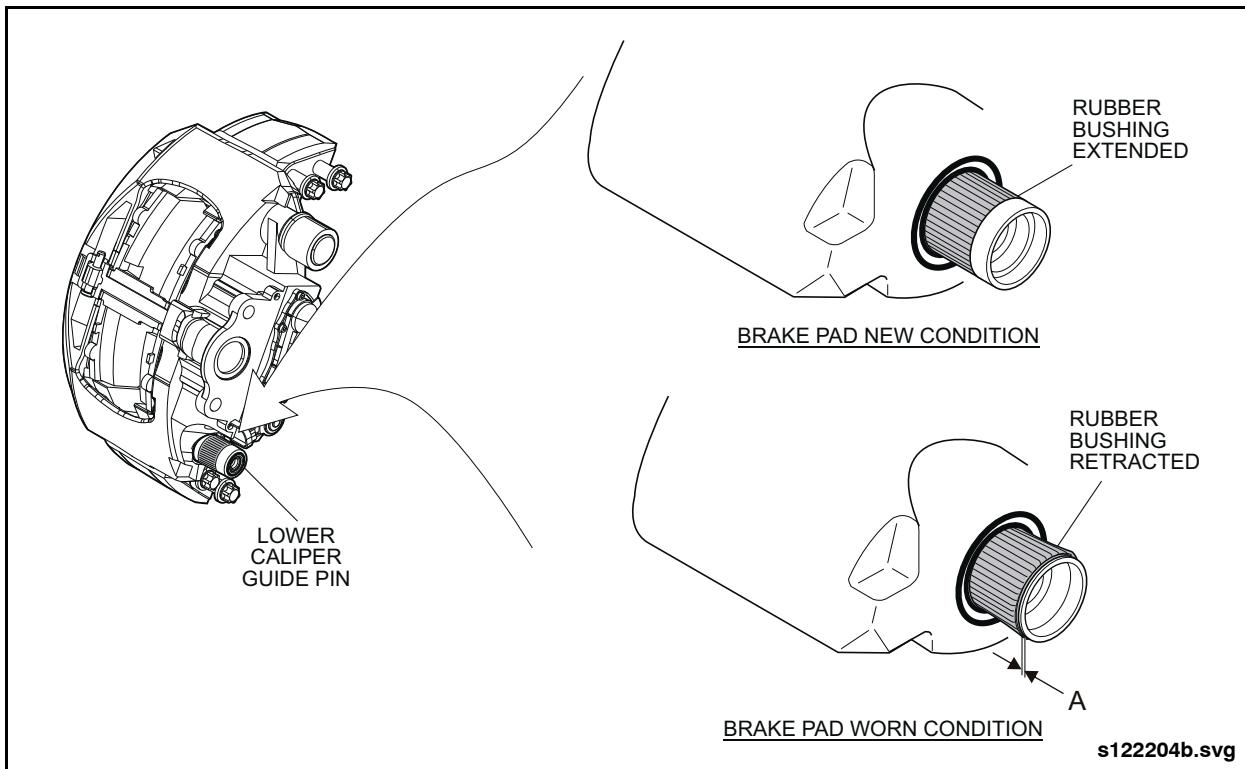

Fig. 2-112: Brake Pad Wear Inspection
2. Inspect the amount of deformation on the bellows area of the rubber bushing. A fully extended bellows indicates a new brake pad condition. A retracted and bulged bellows indicates a worn brake pad condition. See "Fig. 2-112: Brake Pad Wear Inspection" on page 99.